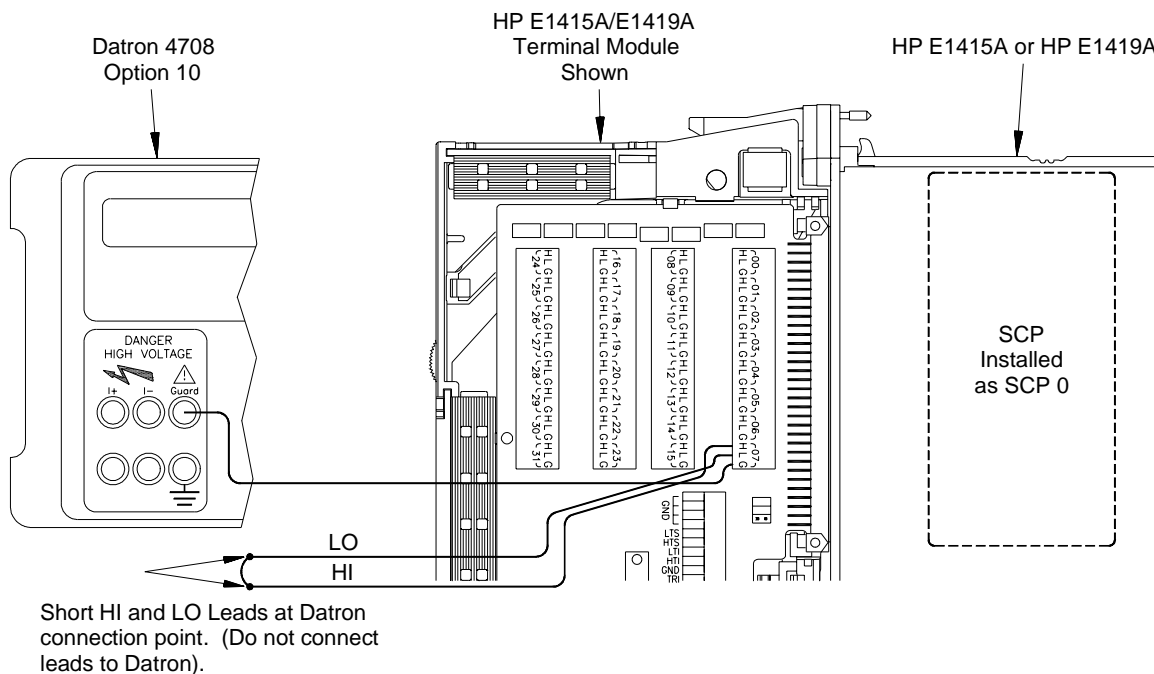

Figure 2-5. Channel Tare/Calibration Connections
- [a] Connect wiring to terminal block (see Figure 2-5)